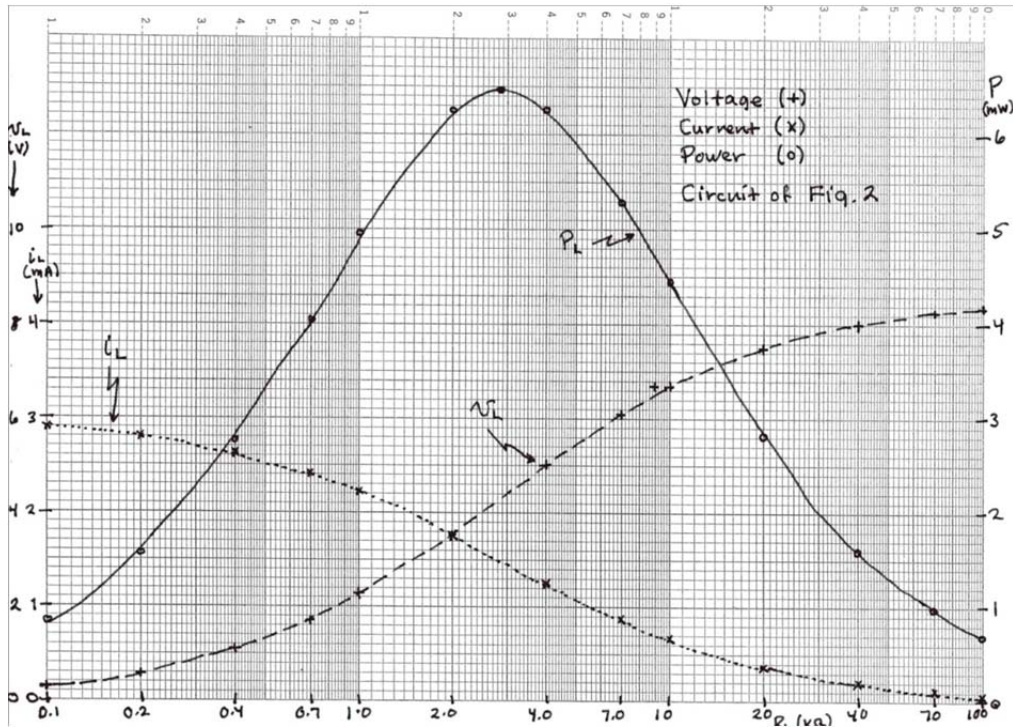

Figure 3: Maximum Power Graph
- Use the same setup as in the previous part to measure the voltage across the load resistor and the current through the load resistor. Create a data table and record  $v_L$  and  $i_L$  as you vary the load resistor from 10  $\Omega$  to 10 k $\Omega$ . Make a third column in the table for the measured power for each resistance setting. Since you will be plotting the results on semi-log paper, you should take data points that make sense. For example, a step interval of 1, 2, 4, 7 of the decades would be approximately equidistant. Note that the graph in Figure 3 is a sample for a different circuit and your numerical values may not be similar.
- Plot all three sets of data ( $v_L$ ,  $i_L$ , and  $p$ ) on the same semi log graph as shown in Figure 3.